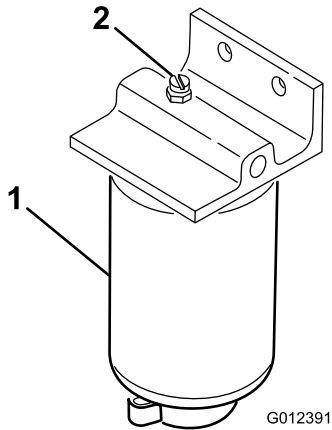

Figure 16
3. Open the vent plug on the fuel filter/water separator (Figure 16).